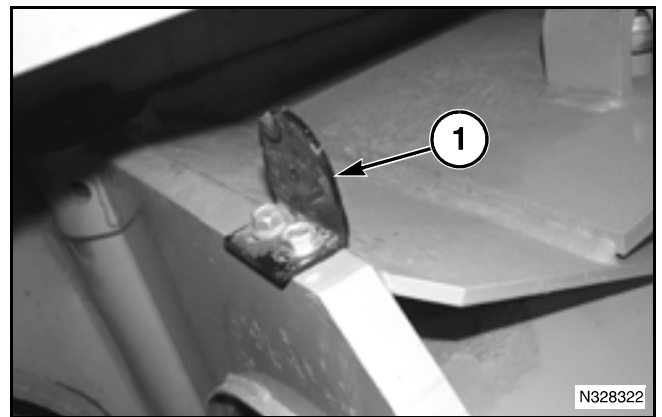

FIG. 68
FIG. 68: Adjust the switch stop (1) so that when the swing auger is fully extended the switch is depressed 1.52 to 2.28 mm (0.060 to 0.090 inch). The unloader switch must not bottom out.